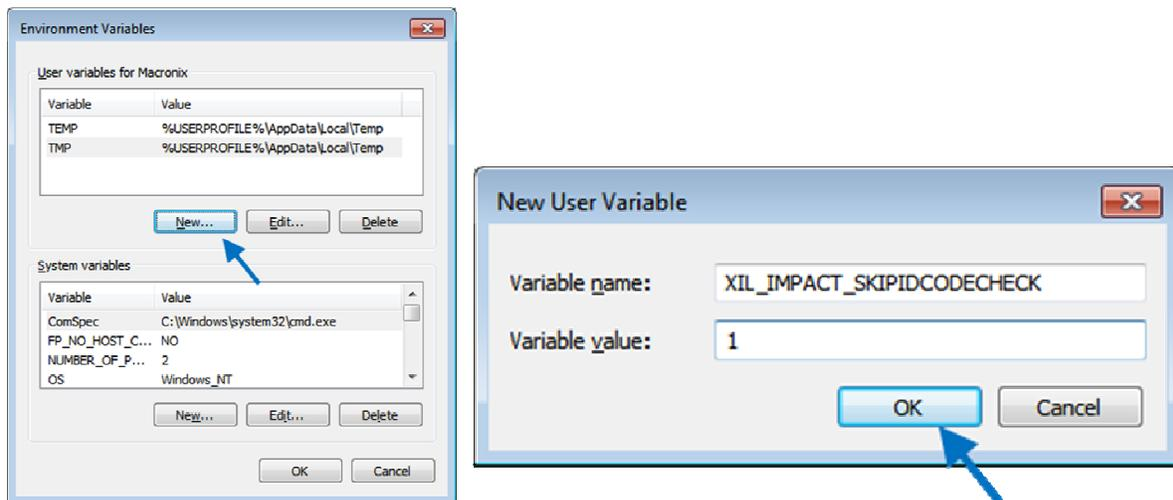

Figure 3-4: Environment Variables Window and New User Variable Window
- e) In the “Environment Variables” window click one of the two “New...” buttons to create either a User variable or a System variable. In Figure 3-4 below, a new User variable is being created.